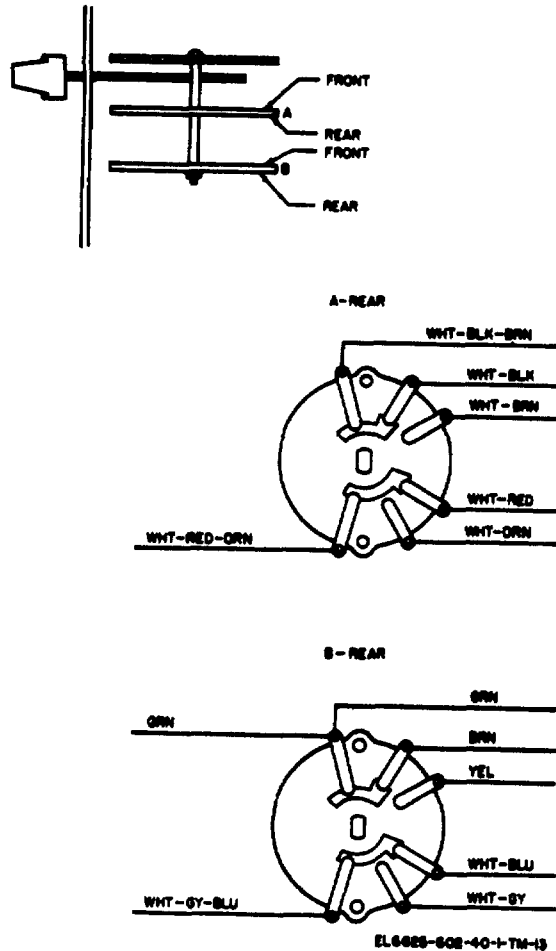

Figure 4-3. Attenuator, Impedance Matching CN-947B/USM-181 FREQ switch wiring diagram.
- (1) Solder the leads to the replacement switch as shown in figure 4-3.
- (2) Fasten the switch to the mounting plate with threaded hardware.
- (3) Replace the front panel, switch mounting plate and support posts.
- (4) Replace the knobs and terminals on the front panel.
- (5) Replace the top, bottom, and side panels.
- (6) Replace the attenuator in the carrying case.